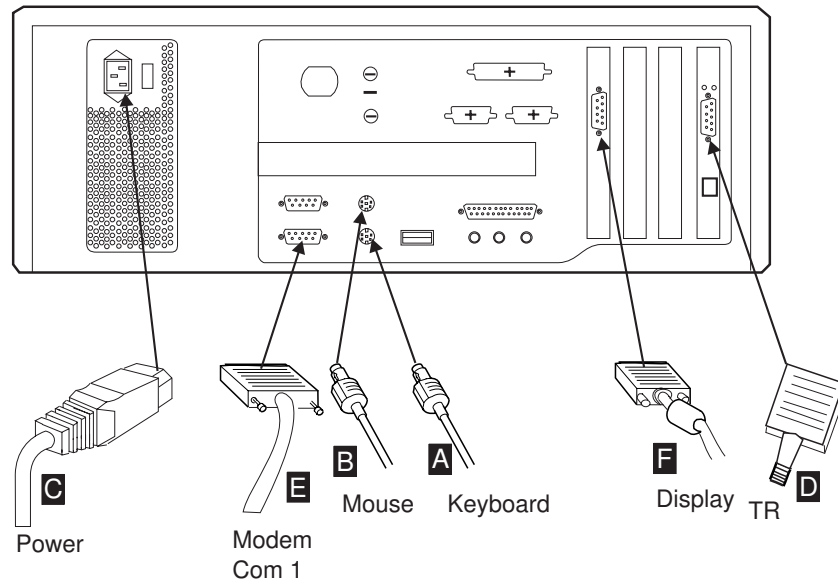

Figure 1-10. Cable Locations
18. **Connect** the cables to the 6563 as follows (see Figure 1-10 on page 1-15):